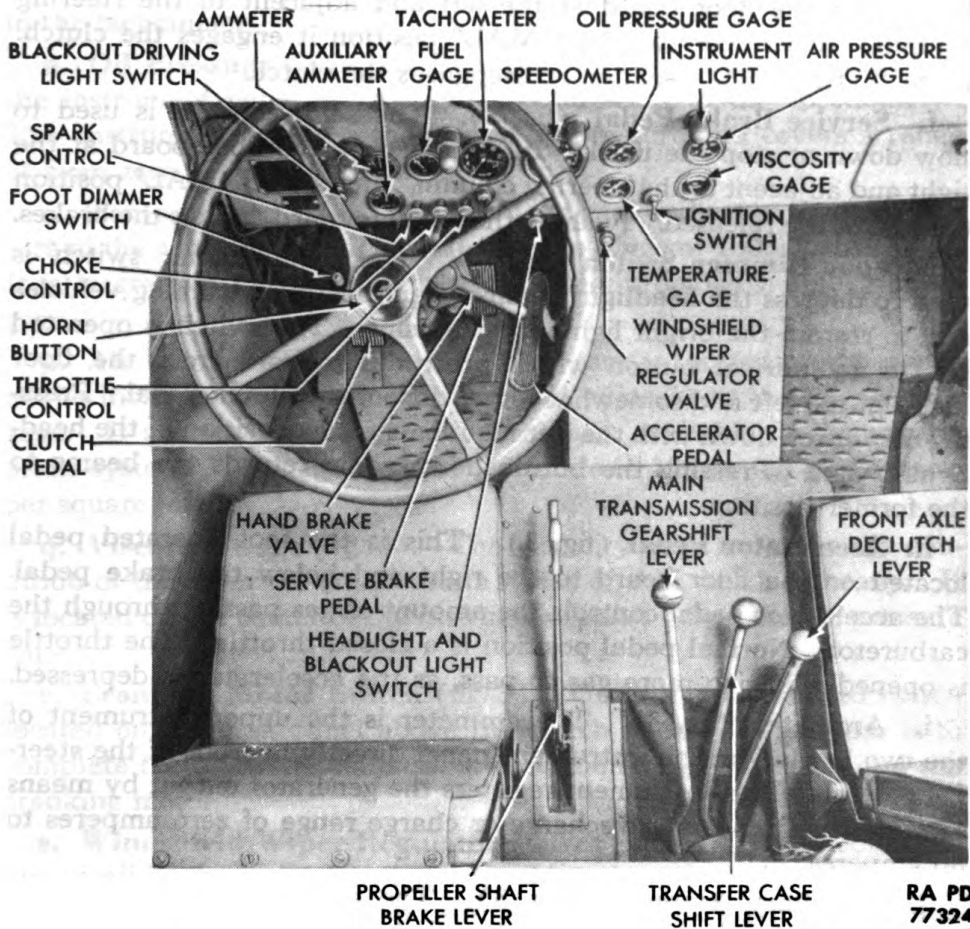
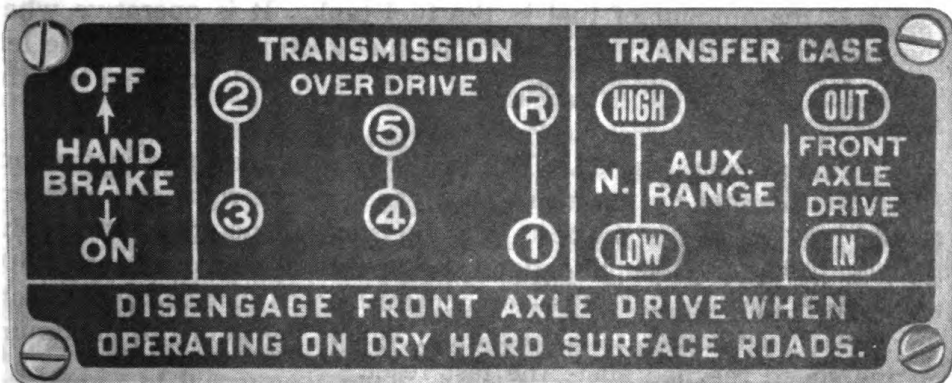

Figure 3 — Operator's Controls
Figure 4 — Gearshift Instruction Plate
a. Propeller Shaft Brake Lever (fig. 3). The propeller shaft brake lever is the first lever which comes through the floor board to the right hand of the driver's seat. It is primarily a parking brake but can be used in an emergency as a stopping brake.
b. Main Transmission Gearshift Lever (fig. 3). This lever comes through the large floor board opening at the right of the driver's seat and is the first lever to the right of the propeller shaft brake lever. It is used to shift all gears in the main transmission. It has five forward positions and one reverse position.
c. Transfer Case Shift Lever (fig. 3). The transfer case shift lever also comes through the large floor board opening and is located to the right and adjacent to the main transmission gearshift lever. This lever has a high, a low, and a neutral position and controls the transfer case gears.
d. Front Axle Declutch Lever (fig. 3). The front axle declutch lever is the third lever which comes through the large floor board opening and is to the right and adjacent to the transfer case shift lever. This lever controls the front axle drive. There is an "IN" and "OUT" position.
e. **Clutch Pedal** (fig. 3). The clutch pedal is the foot pedal located on the floor board at the left and adjacent to the steering column. In its "UP" or "NORMAL" position it engages the clutch. In its "FORWARD" position it disengages the clutch.
f. **Service Brake Pedal** (fig. 3). The service brake is used to slow down or stop the truck. It is located on the floor board at the right and adjacent to the steering column. In its "NORMAL" position the brakes are released. Pushing the pedal forward applies the brakes.
g. **Foot Dimmer Switch** (fig. 3). The foot dimmer switch is used to depress the headlight beams when meeting oncoming vehicles and to restore the bright lights after passing. The switch is operated by the cylindrical button which protrudes upward from the floor board at the left and somewhat forward from the clutch pedal. Pressing the button down with the left foot changes the position of the headlight beams. Pressing the button down again returns the beams to the former position.
h. **Accelerator Pedal** (fig. 3). This is the foot operated pedal located on the floor board to the right and below the brake pedal. The accelerator pedal controls the amount of gas passing through the carburetor. Normal pedal position is a closed throttle. The throttle is opened, allowing more gas to pass, as the accelerator is depressed.
i. **Ammeter** (fig. 3). The ammeter is the upper instrument of the two located on the instrument panel directly in front of the steering column. This instrument registers the generator output by means of a hand. It covers a discharge or charge range of zero amperes to 50 amperes.
j. **Auxiliary Ammeter** (fig. 3). The auxiliary ammeter is the instrument on the instrument panel located directly below the ammeter. Its purpose is to indicate charge or discharge operation of auxiliary storage battery.
k. **Fuel Gage** (fig. 3). The fuel gage is an instrument which indicates the amount of fuel in the fuel tank. It is operative when the ignition switch is turned on. The fuel gage is located at the left center of the instrument panel at the right and adjacent to the ammeter.
l. **Tachometer** (fig. 3). The tachometer is the large instrument located left center on the instrument panel, at the right and adjacent to the fuel gage. Its purpose is to register engine speed in revolutions per minute. The indicating hand covers a range of zero to 2,500 revolutions per minute. The key control located just below the tachometer is used to reset the red hand which registers the maximum engine speed reached since the last reset.
m. **Speedometer** (fig. 3). This instrument indicates road speed in miles per hour and records both trip and total mileage. It is located
n. Oil Pressure Gage (fig. 3). The oil pressure gage is located on the instrument panel at the right and adjacent to the speedometer. This instrument indicates the engine oil pressure and covers a range of from zero to 80 pound per square inch.
o. Temperature Gage (fig. 3). This gage indicates the temperature of the water in the engine. It covers a range of 100° F. to 220° F. It is located on the instrument panel directly below the oil pressure gage.
p. Air Pressure Gage (fig. 3). This gage is located on the center of the instrument panel at the right and adjacent to the oil pressure gage. It shows the amount of air pressure available in the service brake system. The gage registers from zero to 150-pound air pressure per square inch.
q. Viscosity Gage (fig. 3). The viscosity gage indicates the condition of the oil in the crankcase in terms of thin, ideal, or heavy. It is located on the center of the instrument panel below the air pressure gage.
s. Windshield Wiper Regulator Valves (fig. 3). These consist of two small knobs located on a small subpanel connected to the instrument panel below the temperature gage. The left knob controls the wiper in front of the driver's seat and the right knob controls the wiper to the right. Turning the knob counterclockwise opens the valve starting the wiper and also controls its speed. Turning knob clockwise closes the valve and stops the wiper.
t. Headlight and Blackout Light Switch (fig. 3). This is a push-pull type switch with four positions. All lights are out in the first position when the knob is pushed all the way in. Pulling the knob out to the second position lights only the blackout lights. A spring plunger lock holds switch in this position. Releasing plunger and pulling switch out to the "THIRD" position lights headlights, service tail and stop lights. In this position instrument panel lights can be lighted by their separate switch. Pulling switch all the way out to the "FOURTH" position lights the service stop light when the brakes are applied; all other lights are out. The switch knob is located at the left center of instrument panel directly below the speedometer.
u. Choke Control (fig. 3). The choke control knob is located on the lower left of the instrument panel below and to the right of the
v. Ignition Switch (fig. 3). The ignition is located in lower center of instrument panel between the temperature and viscosity gage. It is a lever-type switch and controls the engine electrical supply and must be in the left or "ON" position to start engine. The lever should be kept in the right or "OFF" position except when starting engine, operating engine, or checking gage readings.
w. Throttle Control (fig. 3). The throttle control knob is located on the lower left of the instrument panel below the speedometer. This control operates by push-pull. Pulling increases the amount of gas and thereby increases the engine speed. Pushing reduces gas and engine speed.
x. Spark Control (fig. 3). This is a push-pull type control knob located on the instrument panel below the fuel gage. Pulling out the knob retards the spark and pushing advances the spark. It is used in starting and as a spark adjustment for low grade fuel.
z. Blackout Driving Light Switch (fig. 3). This is a push-pull knob type switch and is located at the extreme left of the instrument panel.
aa. Hand Brake Valve (fig. 3). This is a hand lever operated valve located on the steering column directly below the steering wheel. This valve independently controls the trailer brake.
(1) Apply propeller shaft brake to hold vehicle stationary.
(2) Place main transmission gearshift lever in neutral position (fig. 4).
(1) **PLACING THE VEHICLE IN MOTION.** Disengage clutch by depressing clutch pedal and holding in that position. The transfer case shift lever must be in either "HIGH" or "LOW" position depending on load and road conditions. For heavy load use "LOW," for light load, "HIGH." The vehicle cannot be moved while this lever is in neutral position. Move main transmission gearshift lever to first gear position (fig. 4). Release propeller shaft brake lever. While gradually increasing engine speed by depressing accelerator pedal, slowly release clutch pedal until clutch is fully engaged. Increase engine speed until truck gets under way. Shift main transmission into second gear as follows: Depress clutch pedal, place gearshift lever in neutral position, and engage clutch momentarily. Depress clutch pedal again and place gearshift lever in second gear position (fig. 4). Release clutch and increase engine speed. Do not exceed 2,400 revolutions per minute as indicated by tachometer. Repeat this operation, passing through all gears consecutively until the highest gear is reached at which the engine pulls without laboring.
(5) **STOPPING ENGINE.** To stop engine, turn ignition switch (fig. 3) to "OFF" position. Make sure switch is completely open, otherwise battery will be run down and starting engine will be difficult.
a. **Towing to Start Vehicle.** Attach towing cable to towing hooks. Place front axle declutch lever (fig. 3) in "OUT" position (fig. 4). Move transfer case shift lever to "HIGH" position (fig. 4). Shift main transmission gearshift lever to the No. 5 or overdrive position (fig. 4). Pull out choke, throttle, and spark controls into same position as for starting. Turn ignition switch to "ON" position. Release propeller shaft brake lever and depress clutch pedal. When a reasonable speed is reached, slowly release clutch. As soon as engine starts, disengage clutch and adjust controls, as necessary, to provide a smooth running engine. If it is necessary to stop the vehicle before the engine starts and air cannot be made available from the towing truck, use propeller shaft brake. Exercise extreme caution in applying this brake.